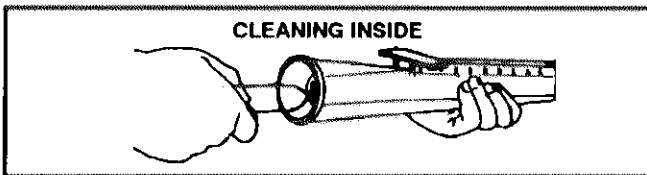

FIGURE 34
- 15— Clean inside of each burner with a bottle cleaning brush. See figure 34.